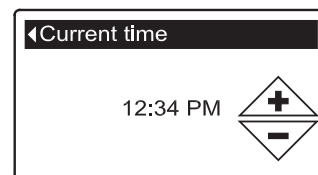

FIG. 98
5. Press the SELECT (O) button to display the Current time screen (See Figure 98).